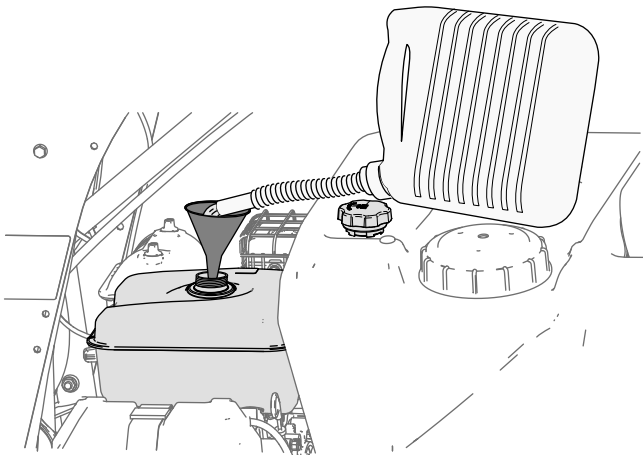

Figure 15
3. Clean around the fuel-tank cap and remove it (Figure 15).
4. Fill the tank with fuel (Figure 15) to within 6 to 13 mm (1/4 to 1/2 inch) from the top of the tank. **Do not fill into the filler neck of the tank.**